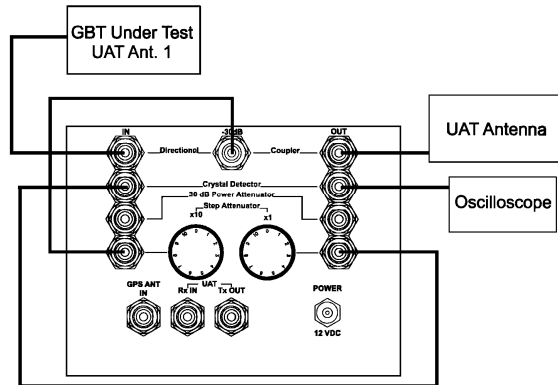
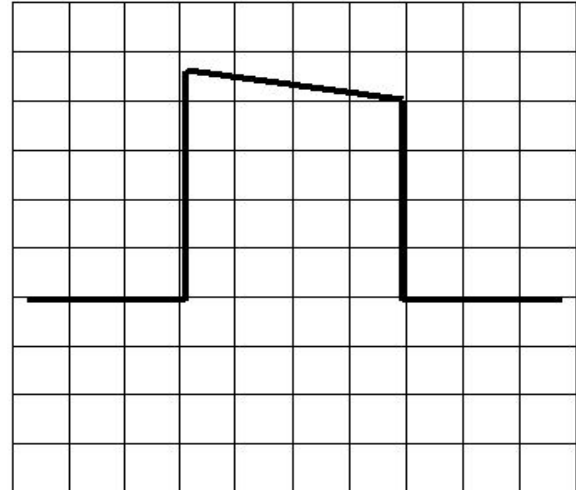
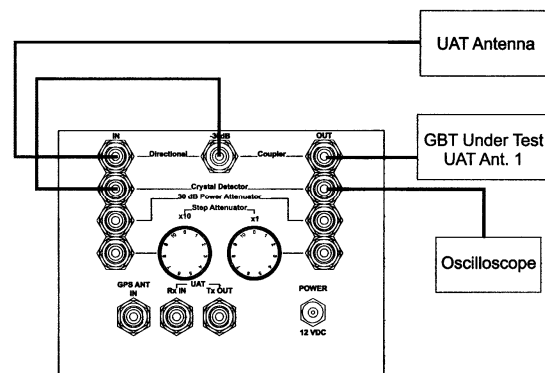

Figure 5-6 Forward Power to UAT Antenna Test Setup
Figure 5-7 Expected Waveform
Figure 5-8 Reverse Power from UAT Antenna Test Setup
(3) Connect a cable between the UAT ANT. 1 connector on the back panel of the GBT under test to the IN port of the Directional Coupler on the GBT Test Set as shown in Figure 5-6.
(4) Connect the UAT antenna cable to the Directional Coupler OUT port on the GBT Test Set.
(5) Connect a TNC patch cable between the center -30 dB OUT port of the Directional Coupler on the GBT Test Set and the IN port of the Step Attenuator.
(6) Connect a TNC patch cable between the OUT port of the Step Attenuator and the IN port of the Crystal Detector.
(7) Connect a cable from the GBT Test Set RF Crystal Detector OUT port to the oscilloscope.
(8) Turn the Step Attenuator to 10 dB.
(9) Turn on power to the GBT under test. Turn on the MX20 and wait for the startup routine to finish.
(10) At the laptop computer, type the command: "gbt beacon on". Press ENTER.
(11) Measure the power output with the oscilloscope. Initial scope settings are: 100 mV/div Vertical, 100 μ S/div Time Base. See Figure 5-7.
(2) Connect the UAT antenna cable to the Directional Coupler IN port on the GBT Test Set as shown in Figure 5-8.
(3) Using a patch cable, connect the UAT ANT. 1 connector at the back of the GBT under test to the OUT port of the Directional Coupler on the GBT Test Set.
(4) Connect a TNC patch cable between the center -30 dB OUT port of the Directional Coupler to the RF Crystal Detector IN port.
(5) Connect a cable from the GBT Test Set RF Crystal Detector OUT port to the oscilloscope.
(6) Turn on power to the GBT under test. Turn on the MX20 and wait for the startup routine to finish.
(7) At the laptop computer, type the command: "gbt beacon on". Press ENTER.
(8) Measure the power output with the oscilloscope. Initial scope settings are: 100 mV/div Vertical, 100 μ S/div Time Base. See Figure 5-6 for test setup.
(9) Using the chart supplied with the GBT Test Set, convert the measured voltage to an RF level in dB, add 30 dB to the measured value and record the value as Pr.
(10) At the laptop computer, type the command: "gbt beacon off". Press ENTER.
(11) Subtract Pr from Pf ($P_f - P_r$). The difference is the Return Loss. See Table 4-1 in Appendix 4 to determine the VSWR.